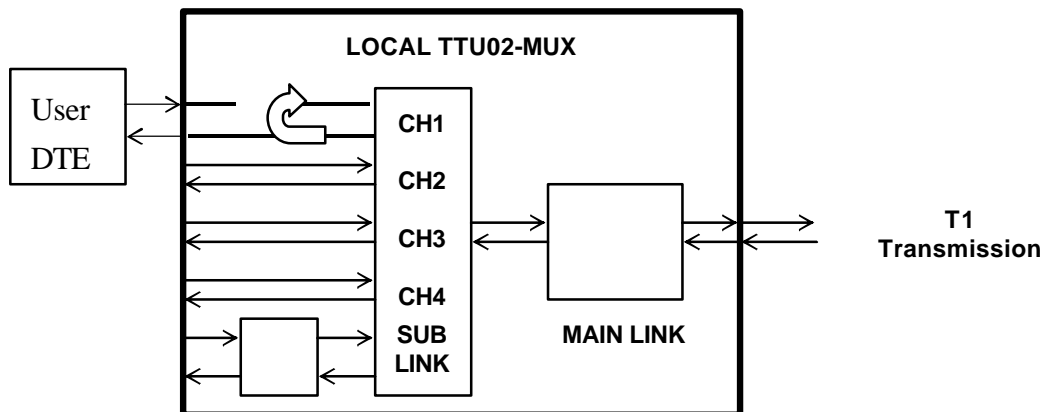

Figure 5-8. Channel local digital loopback
Channel local digital loopback is performed by connecting the local data channel receive data (RD) to the data channel transmit input (TD), as shown in Figure 5-8. The test signal is provided by the remote user DTE.